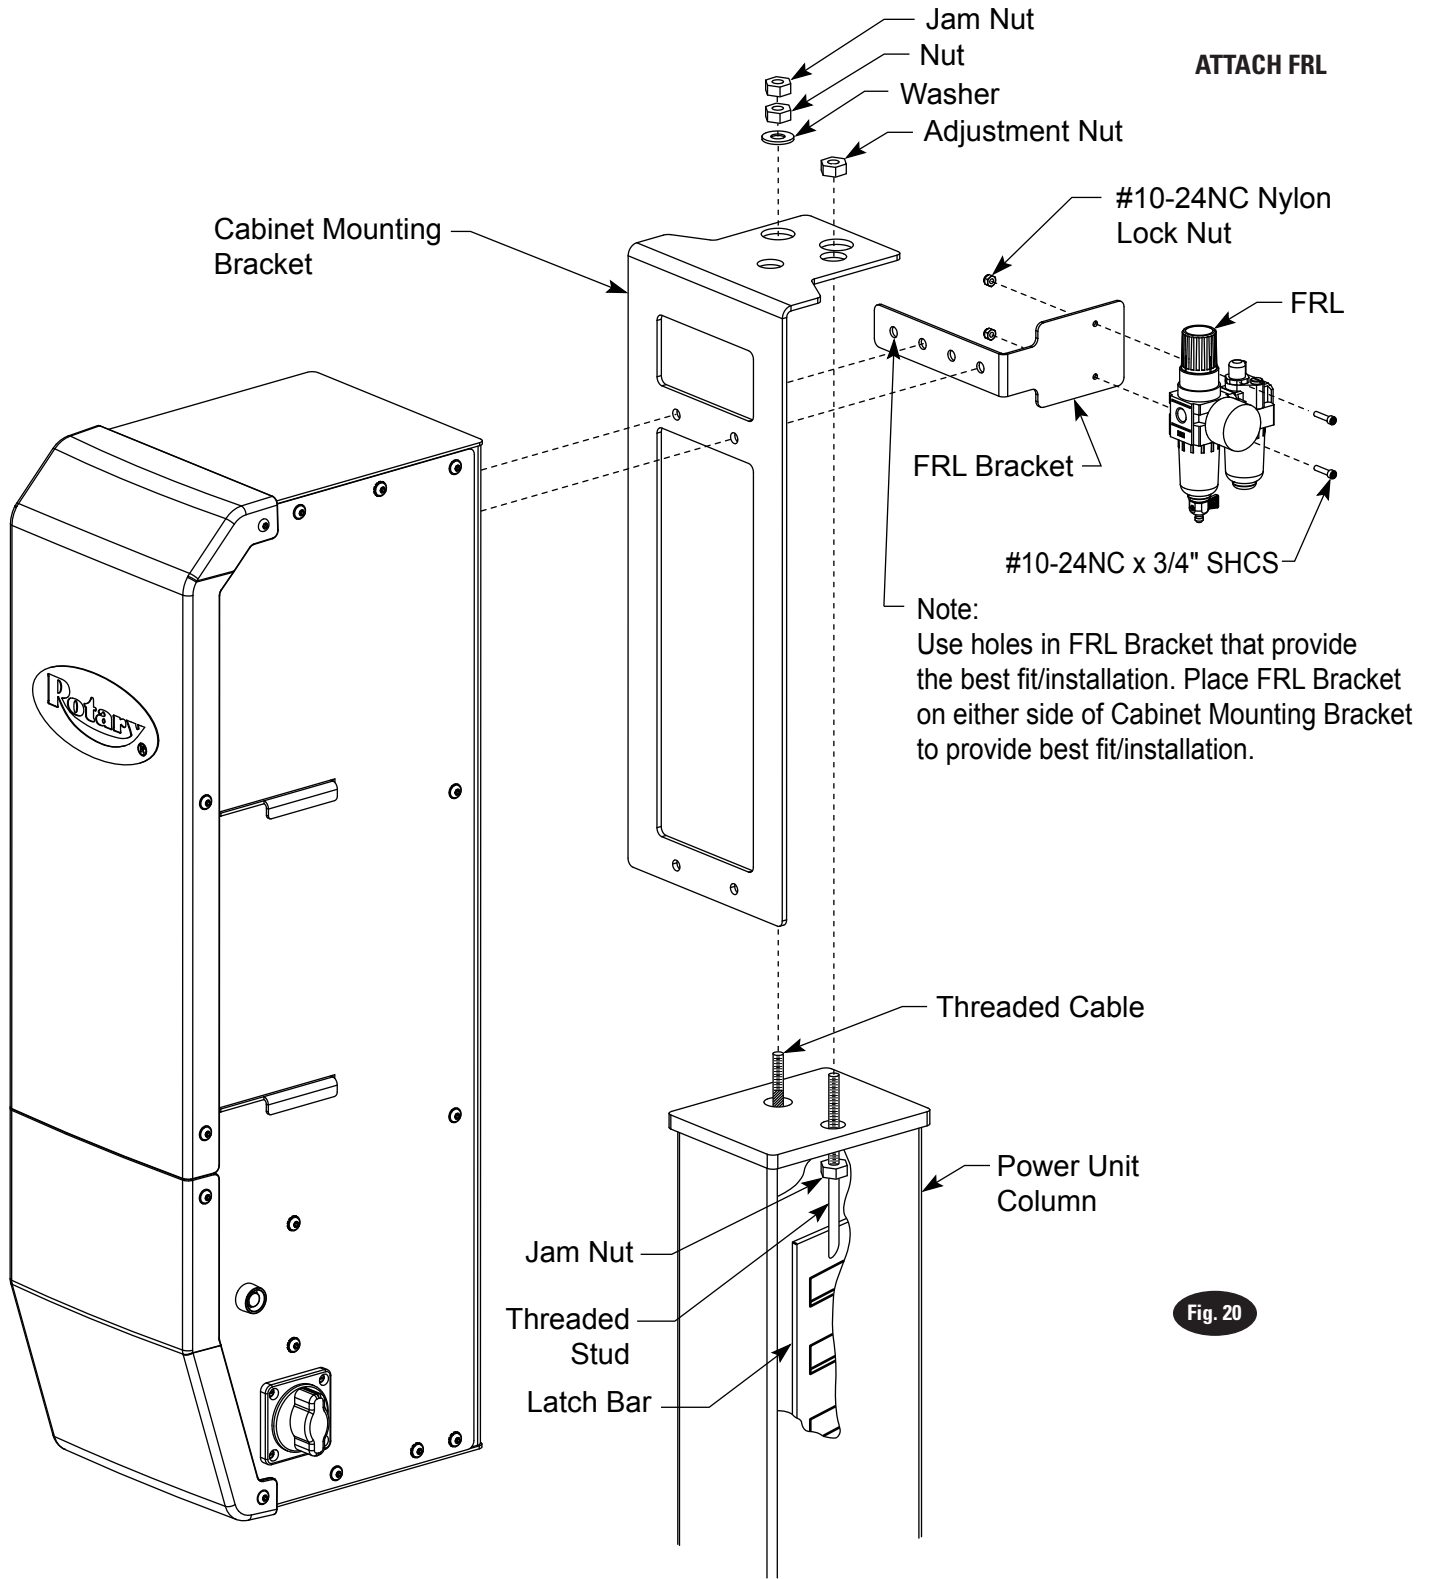

Fig. 20
Note: The mounting bracket has 2 sets of holes for mounting the power unit and control cabinet to either the front or side of the column. Use the appropriate holes for mounting based on customer's preferred power unit/control cabinet location, Fig. 20.
- B. Secure the DC control cabinet by mounting it to the cabinet mounting bracket, Fig. 20. Fasten the cabinet and FRL bracket using the included (4) 5/16"-18NC x 1" long bolts, (4) 5/16" USS flat washers and (4) 5/16"-18NC flanged lock nuts, Fig. 20.